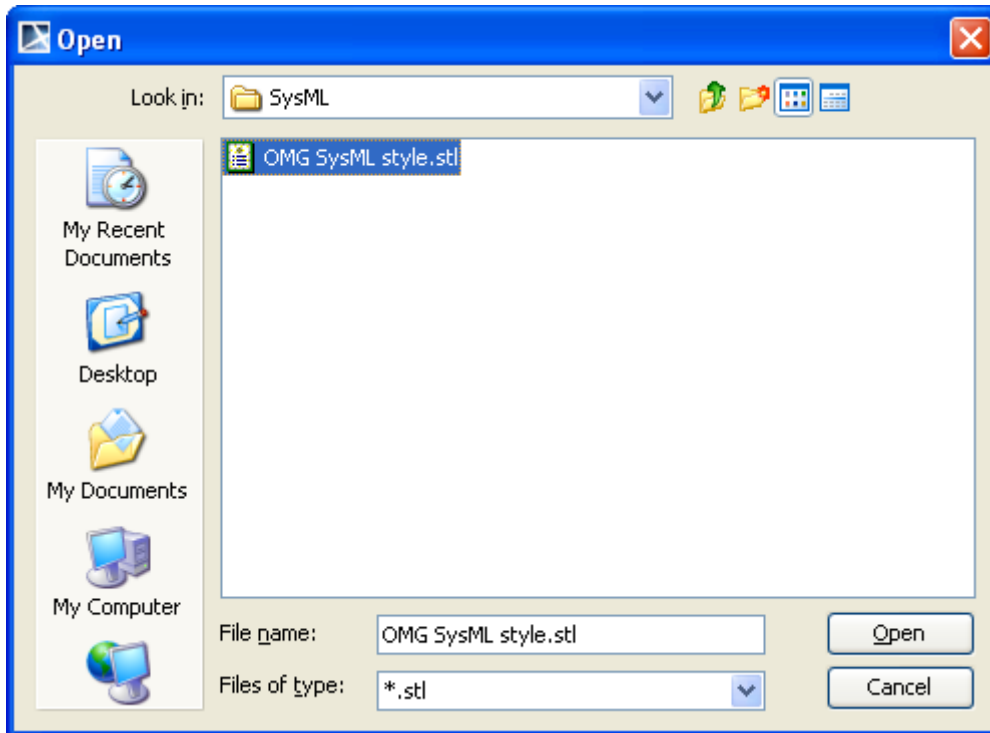

Figure 7 -- Open Dialog - Importing OMG SysML Style
5. In the **Symbols properties styles** panel (on the right), if the **OMG SysML style** is not available, press **Import** button. The **Open** dialog will then open (Figure 7). In the dialog, select **OMG SysML style.stl** located in `<md.install.dir>/templates/SysML` directory, and then press **Open**. Select the style in the **Symbols properties styles** panel.